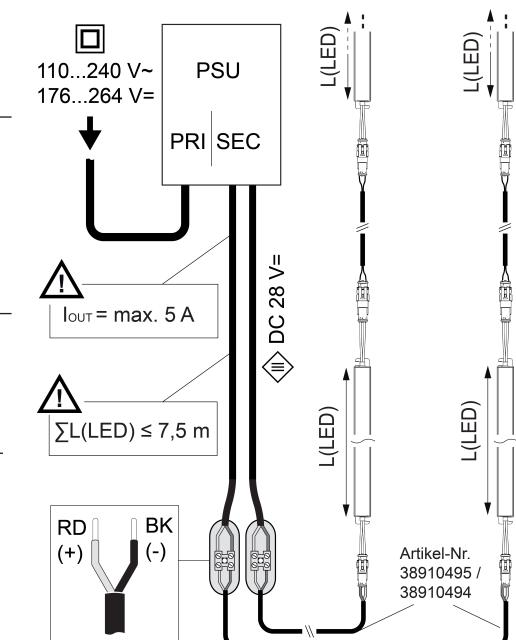

Figure 4: Connection diagram
- Connect the light inserts according to the connection diagram (Figure 4).